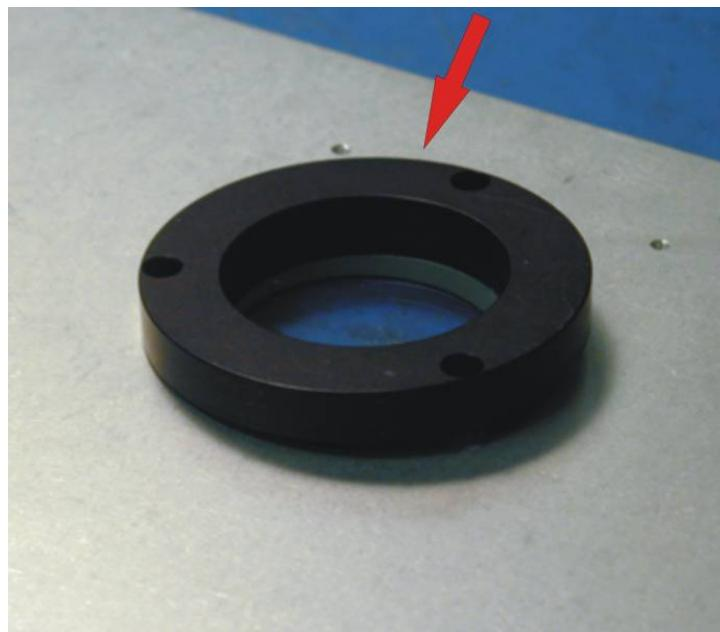

Figure 94: Marking the top of the window ring
1. Mark the top of the “window ring” with a pencil so you can later distinguish the top from the bottom, as shown in Figure 94.